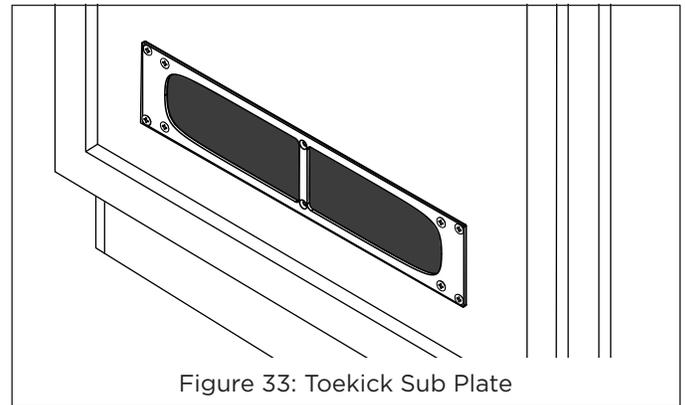

Figure 33: Toekick Sub Plate
9. Now the toekick sub plate and connector are in position and ready for the PPX pipe tube to be attached from behind the wall (see Figures 33).